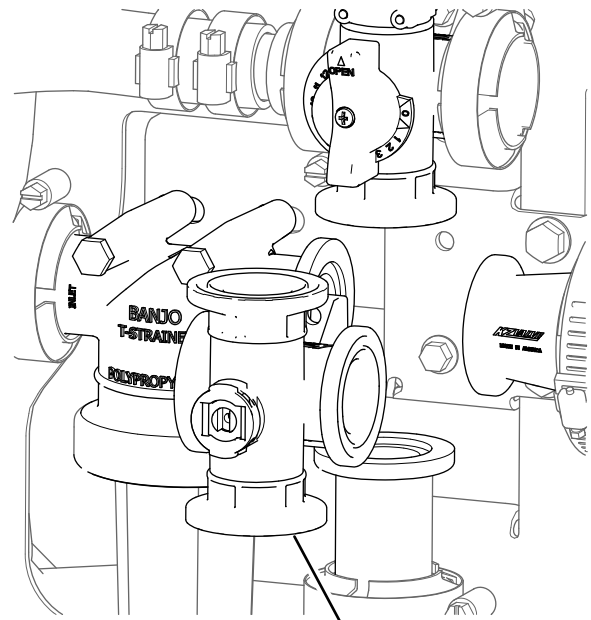

Figure 113
2. Remove the agitation-valve manifold from the machine (Figure 113).